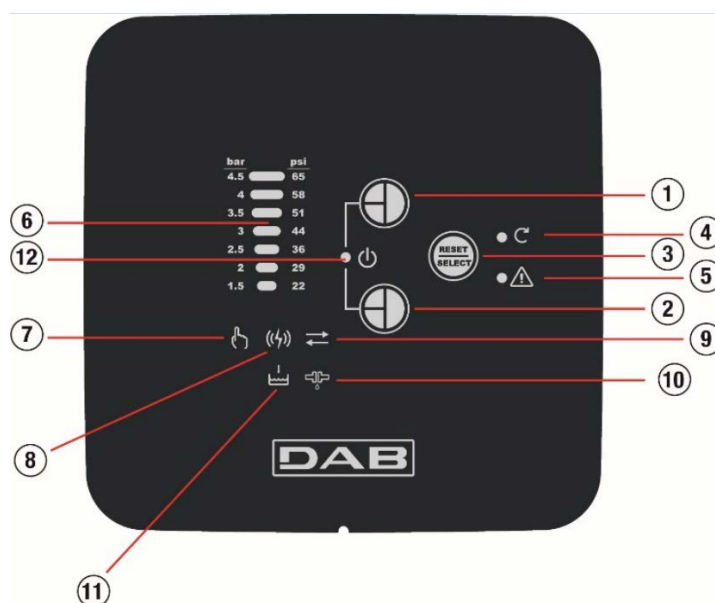

Fig. 16
To pass from Monitor mode to SETUP mode, hold down the buttons “-” (Fig. 16, 1) and “Reset/Select” (Fig. 16, 3) simultaneously for at least 3 seconds. To pass from SETUP mode to Monitor mode, hold down the buttons “-” (Fig. 16, 2) and “Reset/Select” (Fig. 16, 3) simultaneously for at least 3 seconds or wait for 1 minute without touching any button on the interface. When switched on, the COM BOX is in Monitor mode by default. SETUP mode is indicated by the alternate blinking of the ENGINE STATUS and ALARM LED.
12.2.1. Motor status (Fig. 16, 4)
12.2.2. Alarm reading (Fig. 16, 5)
12.2.3. MANUAL MODE function (Fig. 16, 7)
12.2.4. PLC connection (Fig. 16, 8)
By simultaneously pressing and releasing the “+” and “-” buttons (Fig. 16, 1 - 2), the pump motor stops unconditionally and cannot start again until the “+” and “-” buttons (Fig. 16, 1 - 2) are pressed again simultaneously and released. This Inhibition also prevails over any motor start set in “MANUAL” mode.
The alarms can be set manually by pressing the “Reset/Select” button (Fig. 16, 3).
With the “Reset/Select” button (Fig. 16, 3) you can go through the settings described below.
With this function it is possible to vary the pump CUT-IN value. This value can be increased/decreased with the “+” and “-” buttons (Fig. 16, 1-2) and can assume the values represented in the barometric scale by flashing.
In this setting, the pump motor is switched on using the "+" button (Fig. 16, 1).
The "-" button (Fig. 16, 2) restores normal operating conditions.
In this setting, by pressing the "+" button (Fig. 16, 1) for 5 seconds, the COM BOX temporarily enters the PLC association status through the power supply network.
Pressing the "-" button (Fig. 16, 2) for 5 seconds eliminates any association with the DTRON3.